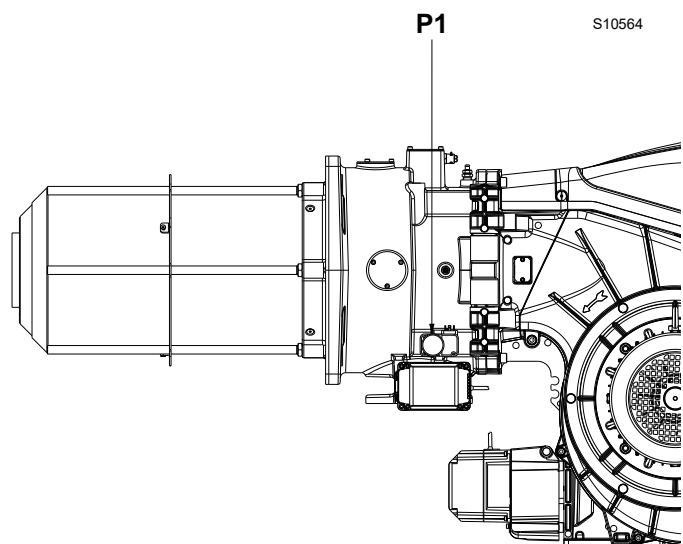

Fig. 26
- subtract the combustion chamber pressure from the gas pressure measured at test point P1)(Fig. 26).
To calculate the required gas pressure at test point P1)(Fig. 26), set the MAX output required from the burner operation: